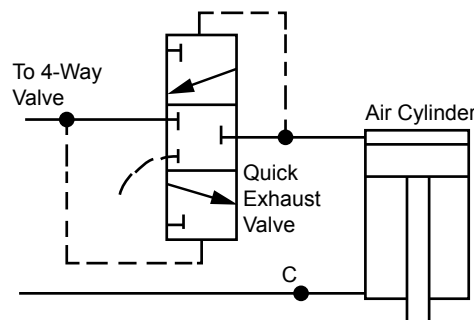

Fig. 3. Add quick exhaust valve in one or both cylinder ports to reduce back pressure to increase speed.
4. Quick Exhaust Valves. **Figure 3.** These valves may be used on single-acting cylinders and on one or both ports of a double-acting cylinder. They increase cylinder speed by removing most of the back pressure on the exhausting air. As installed on **Figure 3**, the quick exhaust valve increases retraction speed without affecting forward speed. A similar valve could be installed at Point C to increase forward speed.